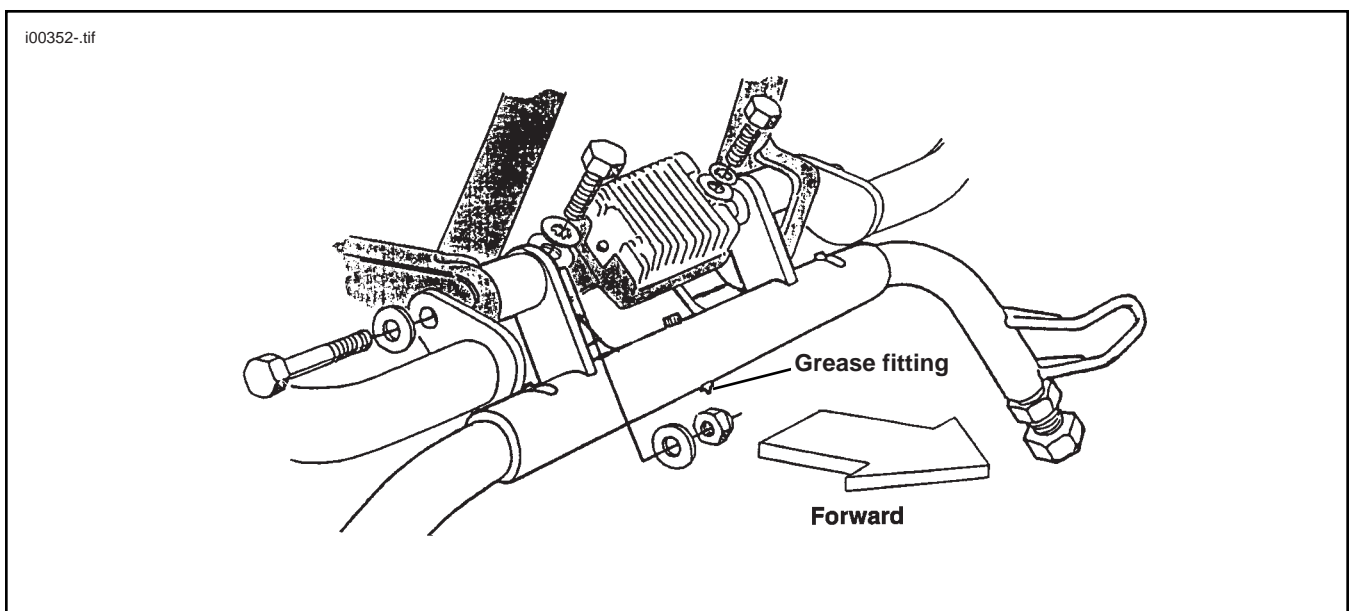

Figure 1. Chrome Display Stand Shown In Extended position - 1994 and Earlier Syle Frame
1. See Figure 1. Slide the display stand into position.
2. See Service Parts Illustration. Fasten with 3/8-24 X 2-1/2 in. bolts (5), original washers, 1-1/4 in. spacers (11) and locknuts (8). Tighten finger tight.